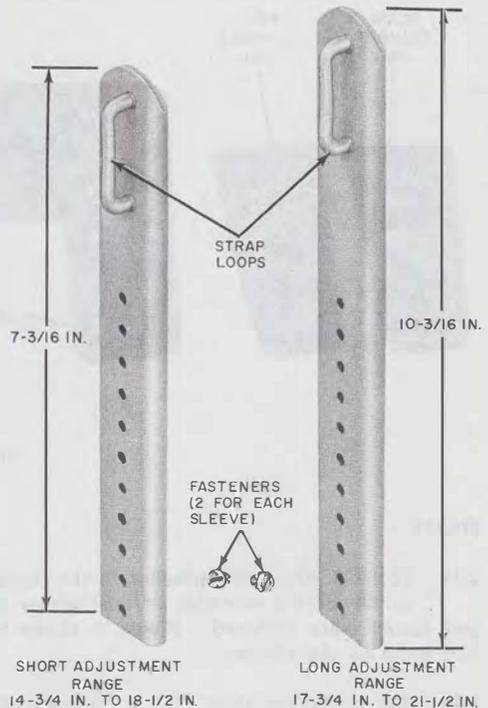

Fig. 3—Sleeves for Adjustable Climbers
**2.07** The sleeves used on adjustable climbers are designed to fit snugly over the shank of the leg irons and to be securely locked in the desired position by fasteners. The sleeves are available in two lengths and can be adjusted in increments of 1/4 inch. Figure 3 illustrates the sleeves, the lengths available, and the adjustment range of each sleeve.
**3.01** Determine the correct sleeve to use by measuring the distance from the lower edge of the projecting kneebone to the underside of the shoe at the arch as shown in Fig. 8 and subtract 1/2 inch from this length. Select the climber sleeve that covers this range (2.07, Fig. 3). When ready to assemble the climber for use, proceed as follows: